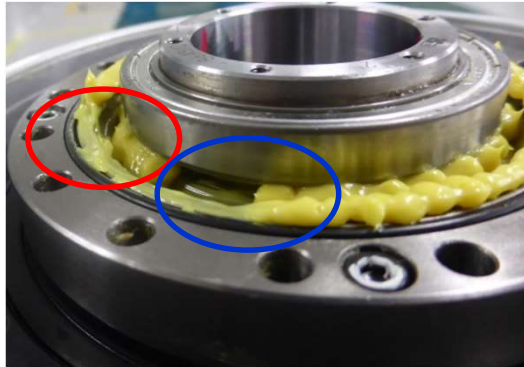

Fig.2
2. No grease is applied under the bearing. Refer to Fig 2.